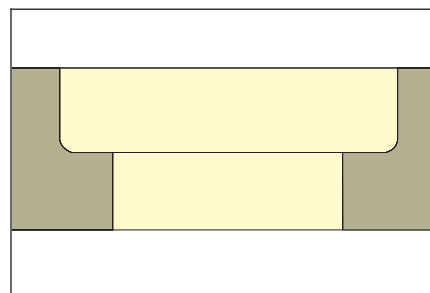

Figure 3 Mill a step into the edge of the PC board.
- 3B. Install an end mill into the chuck of a precision drill press. Set the speed to maximum and machine a step or lap joint in the edge of the printed circuit board where the new base material will be installed. The depth and width of the step should be approximately 1/2 of the printed circuit board thickness. (See Figure 3.)